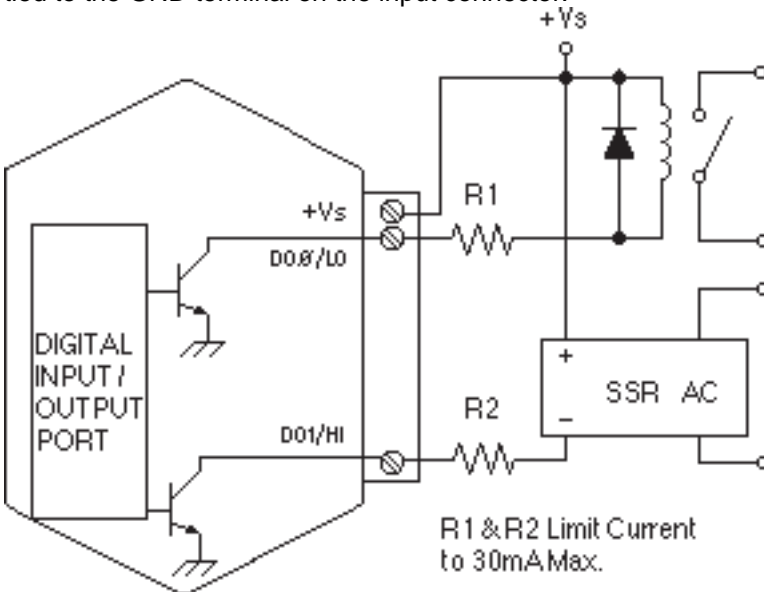

Figure 6.1 Digital Outputs Used With Relays
A digital output consists of an open-collector transistor controlled by the host, using the Digital Output (DO) command (See Figure 6.1). The number of digital outputs implemented depends on the specific SCM9B-1000 model number. Most sensor modules contain two digital outputs and the SCM9B-1701/2 has eight digital outputs. The open-collector configuration is used to provide maximum versatility in interfacing to solid state relays (SSR's) or to standard logic levels such as TTL or CMOS. Each digital output can sink up to 30mA and can withstand up to 30V. Power in the transistor must be limited to 300mW. The emitter of each transistor is tied to the GND terminal on the input connector.
A typical connection of a digital I/O output is shown in Figure 6.1. In this case, a solid state relay is controlled by the SCM9B-1000 module. The SSR can then be used to control AC power to alarms, heaters, pumps, etc.